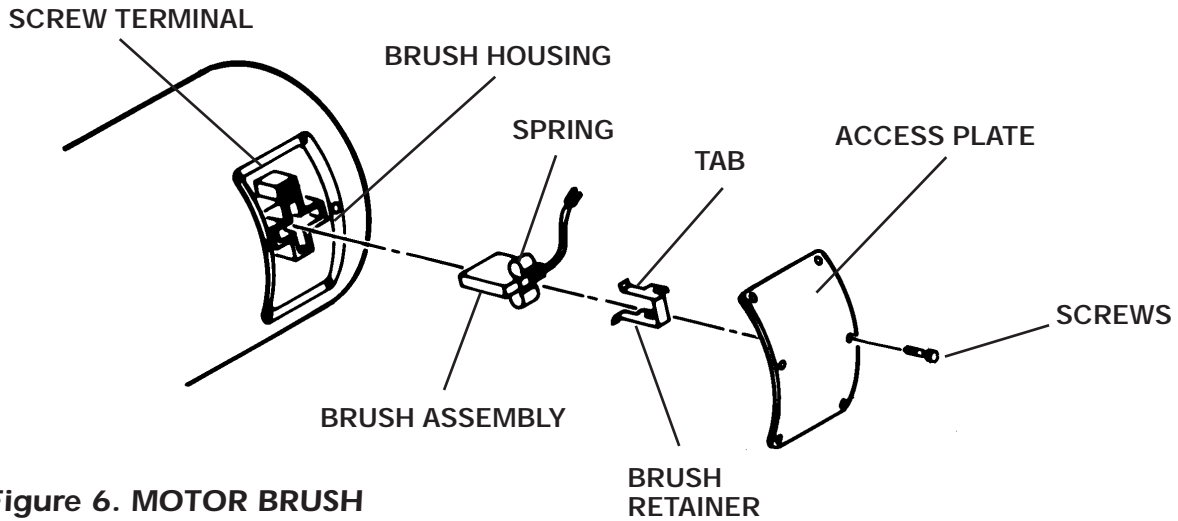

Figure 6. MOTOR BRUSH
2. To access the motor brushes, remove six screws securing the access plate and remove plate (see Figure 6).